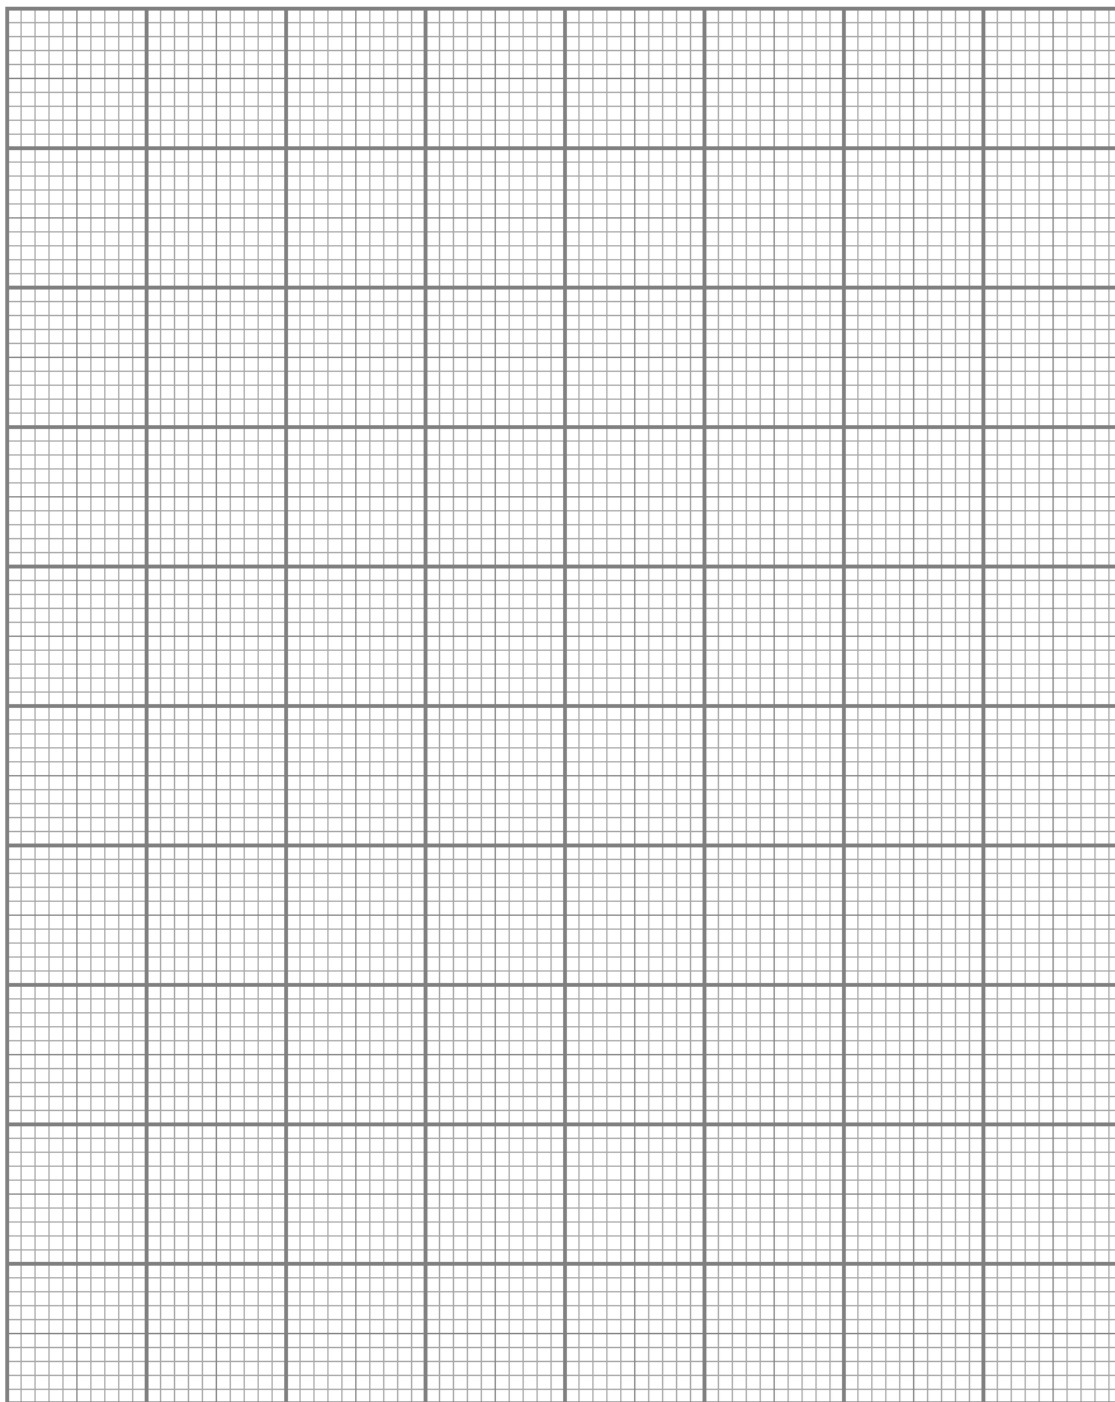

Fig 2.1
- (b) (i) On the grid in **Fig. 2.1**, plot a graph of **volume of sodium thiosulfate, FA 5**, on the y-axis, against decimal time, t_d , on the x-axis. You should draw the most suitable line that takes into account all of your plotted points.
- (ii) Draw a tangent to your graph line in Fig 2.1 at time $t_d = 10.0$ min.